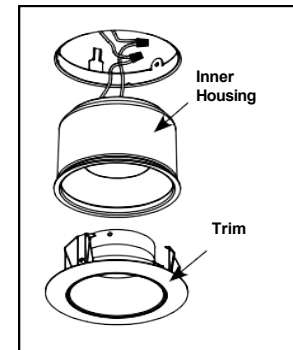

Figure 8
Step 2. Pull down inner housing to remove from fixture. Disconnect red and black wires connecting driver to inner housing and set aside. (Fig. 8)
Step 2. Pull down inner housing to remove from fixture. Disconnect red and black wires connecting driver to inner housing and set aside (Fig. 8).
Paso 2. Tire de la carcasa interior hacia abajo para retirarla del artefacto. Desconecte los cables rojo y negro que conectan el controlador a la carcasa interior y póngalos a un lado (Fig. 8).